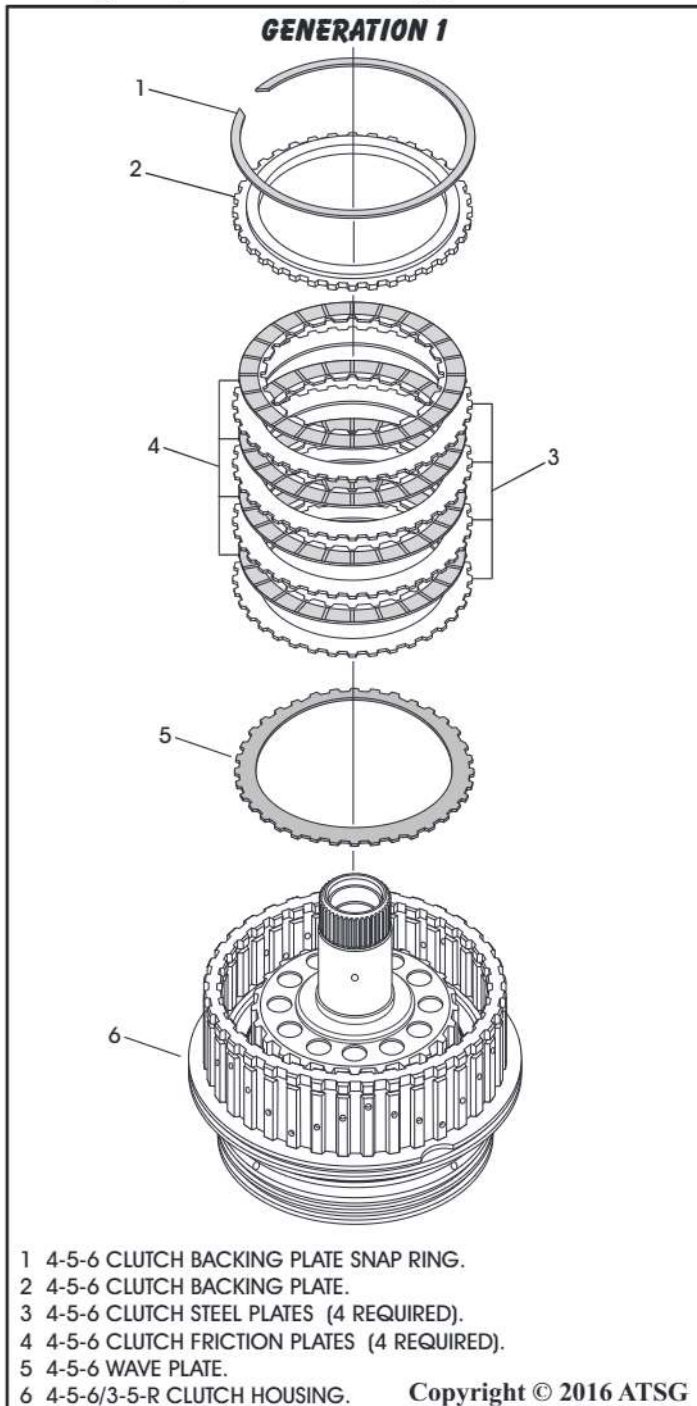

Figure 95
25. For Generation 1 remove 4-5-6 clutch backing plate retaining snap ring as seen in Figure 95.
26. Remove the 4-5-6 clutch backing plate seen in Figure 95.
27. Remove four 4-5-6 friction and steel plates as seen in Figure 95.
28. Remove the 4-5-6 wave plate seen in Figure 95.